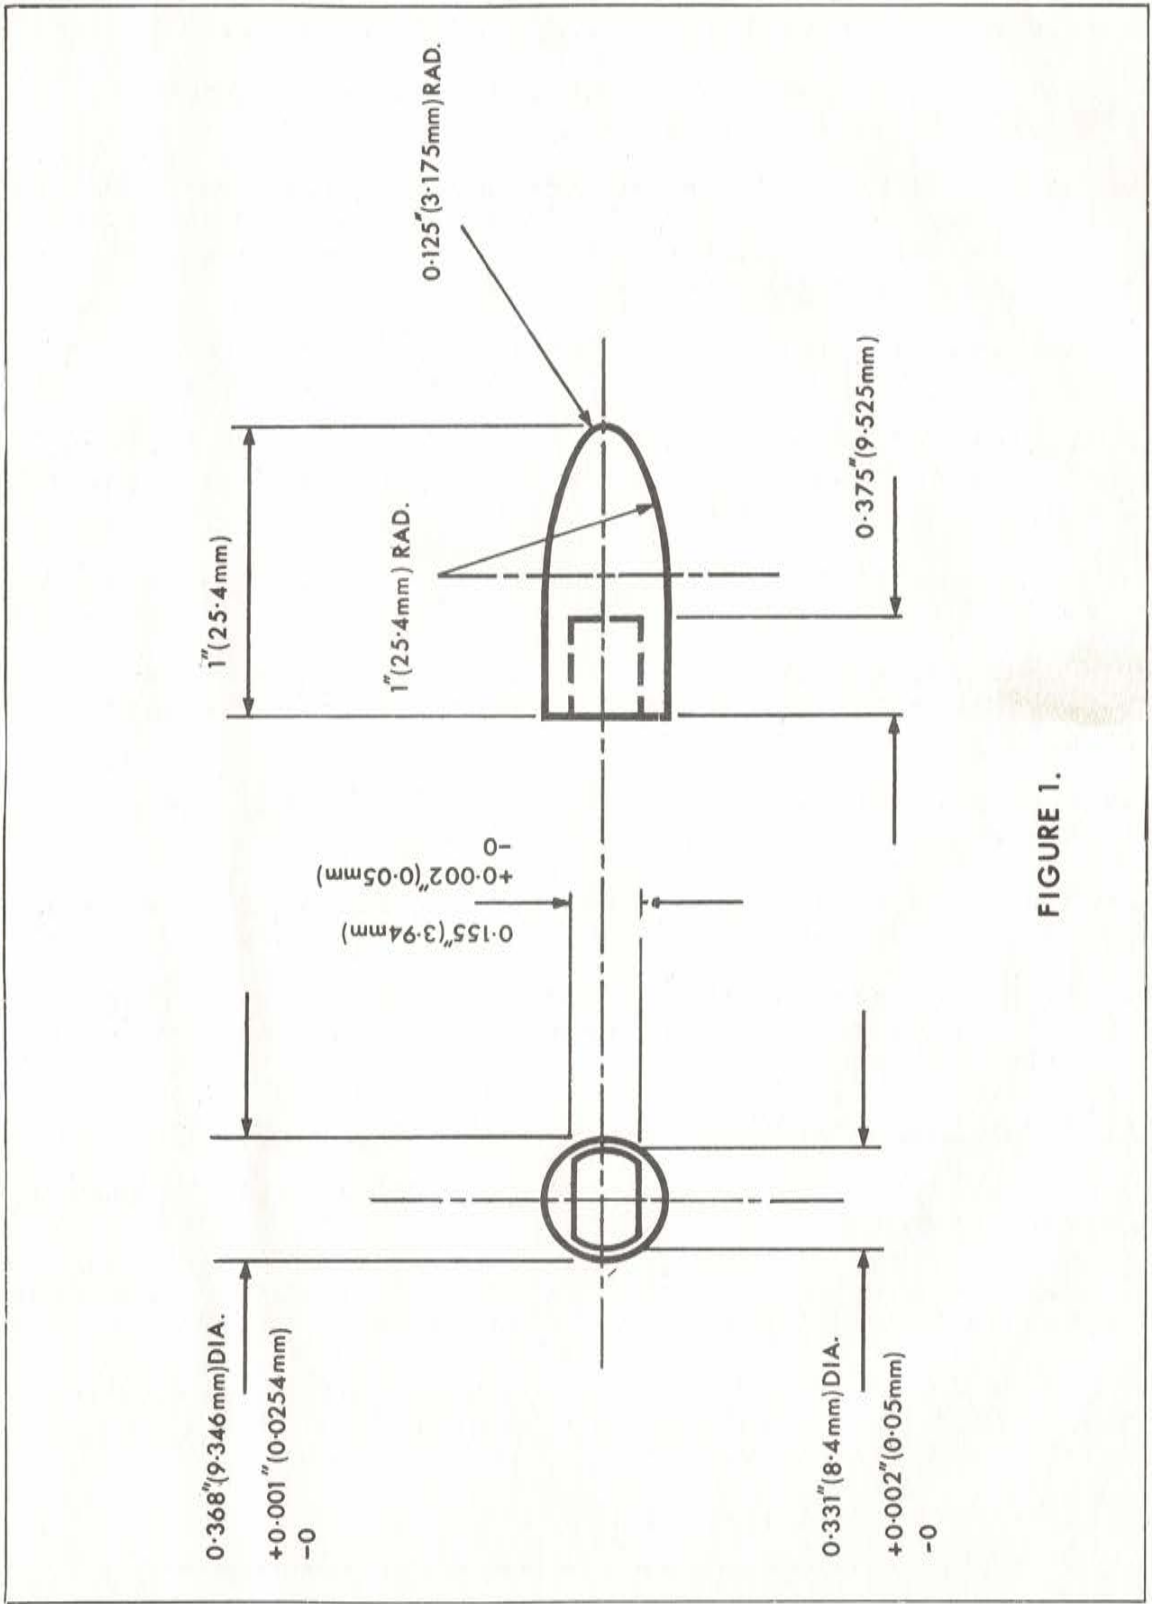

FIGURE 1.
5. Smear the armature shaft with liquid paraffin, and place a protective bullet illustrated in Figure 1, over the armature tongue.